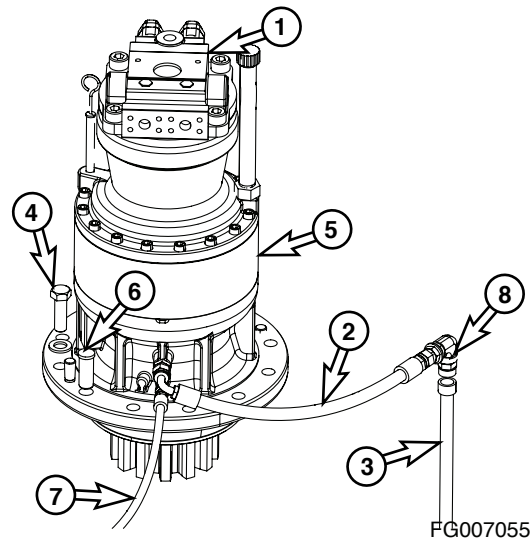

Figure 3
11. Tag and disconnect hoses from swing motor (1, Figure 3). Plug and cap hoses and ports to prevent contamination from entering hydraulic system or component.
12. Assemble drain hose (3, Figure 3) to drain valve (8) and drain oil from reduction gearbox (5, Figure 3).
13. Remove drain hose (3, Figure 3) from drain valve (8) and disconnect hose (2, Figure 3) from reduction gearbox (5).
14. Disconnect grease lubrication line (7, Figure 3) from reduction gearbox (5).
15. Remove eleven bolts and washers (4, Figure 3) holding swing reduction gearbox (5) to frame.
16. Using a suitable lifting device, sling swing motor (1, Figure 3) and remove swing motor and reduction gearbox (5) as an assembly from unit.
NOTE: *There is a alignment pin (6, Figure 3), on reduction gearbox flange.*